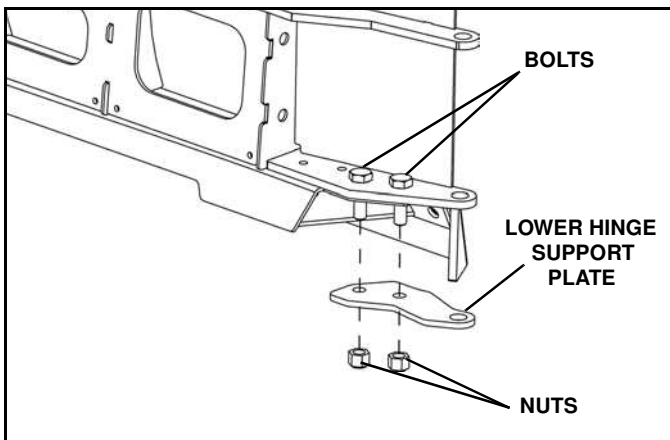

Figure 1-4
2. Insert two bolts (p/n 98009001) into the bottom inside rail on the DS blade section. (See Figure 1-4).